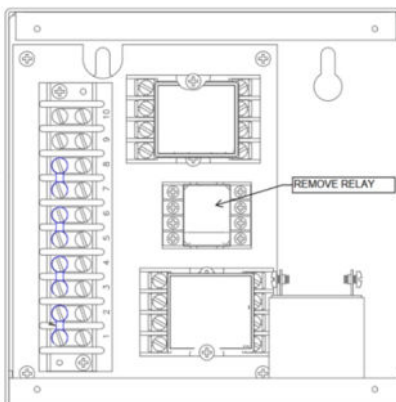

FIGURE 2 (inside of remote monitor panel)
3. Remove relay TR2 from the Remote Monitor Panel (See FIGURE 2).